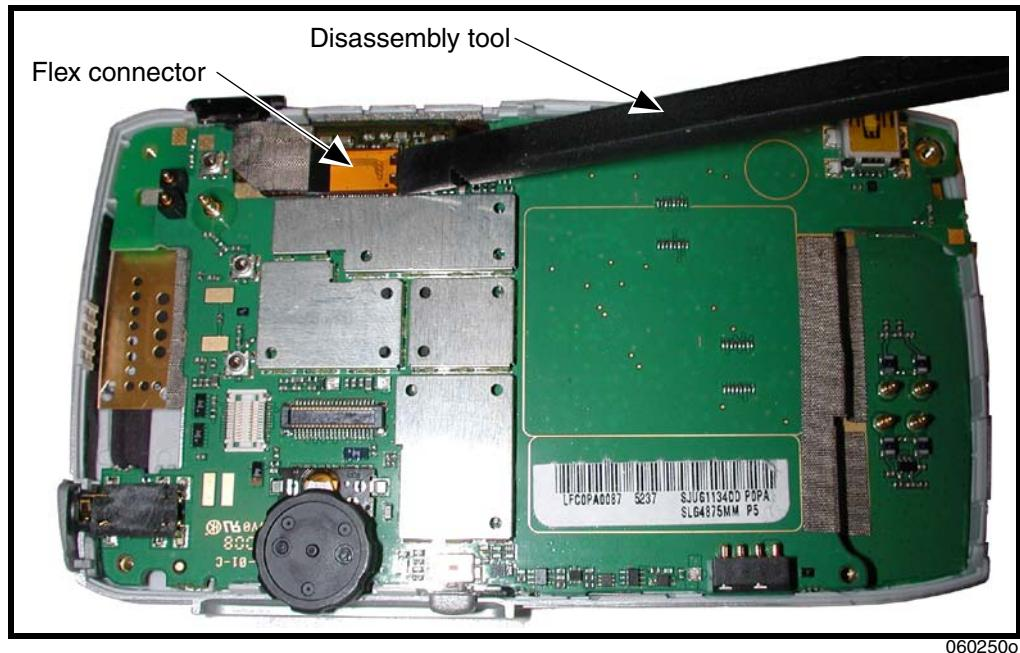

Figure 15. Removing the Display FLEX Connector
2. Use the disassembly tool to unseat the display flex connector (See Figure 15).